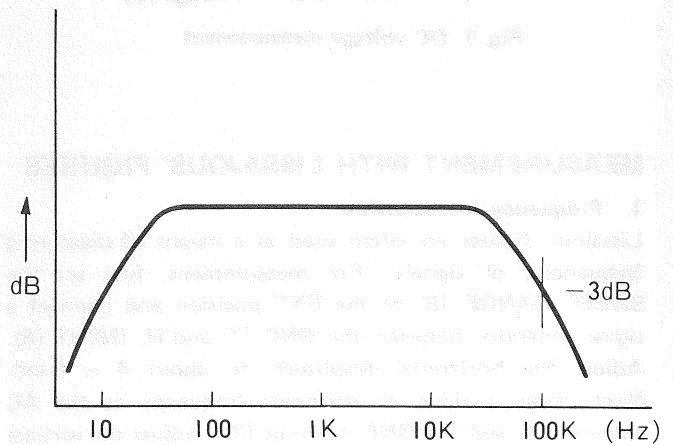
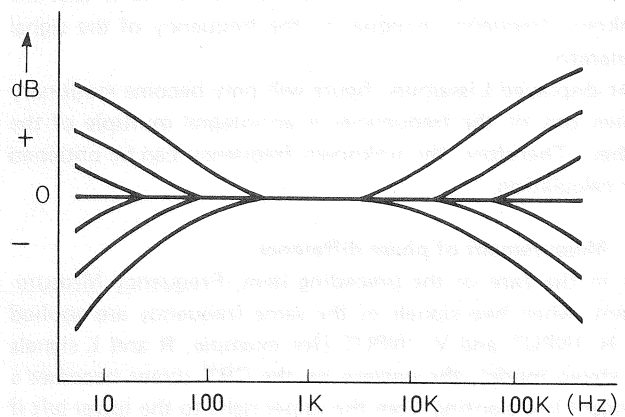

Fig. 8 An example of frequency response
Fig. 9 Frequency response affected by the tone and loudness controls
Supply a sine wave to the AUX terminal of the audio amplifier from a signal generator and connect the speaker output terminals of the amplifier to V. INPUT (1) and GND (2). The audio amplifier may have a typical frequency response as shown in Fig. 8. This response, however, will vary as shown in Fig. 9 by using the tone control or loudness control.